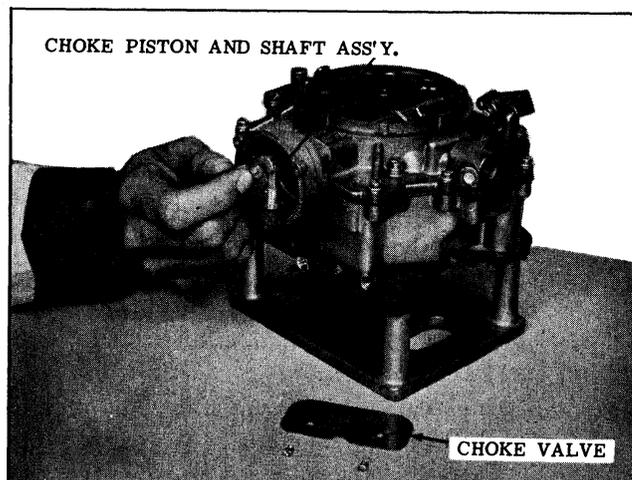

Fig. 8-89 Removing Choke Piston &amp; Shaft
9. Rotate choke shaft counter-clockwise to free choke piston from housing, and remove piston and choke shaft assembly by sliding from air horn. (See Fig. 8-89)